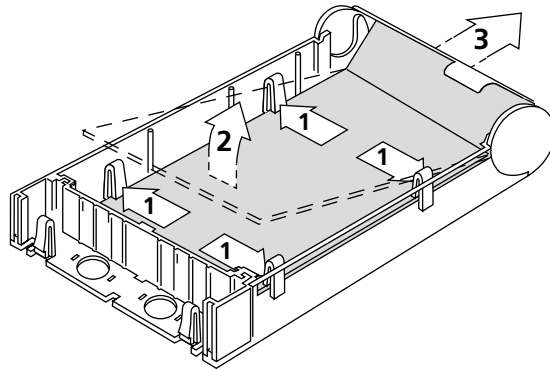

Figure 13. Circuit board replacement.
- Press the four holding clips (1) and release the circuit board as shown (2 and 3), see figure 13 on page 10.